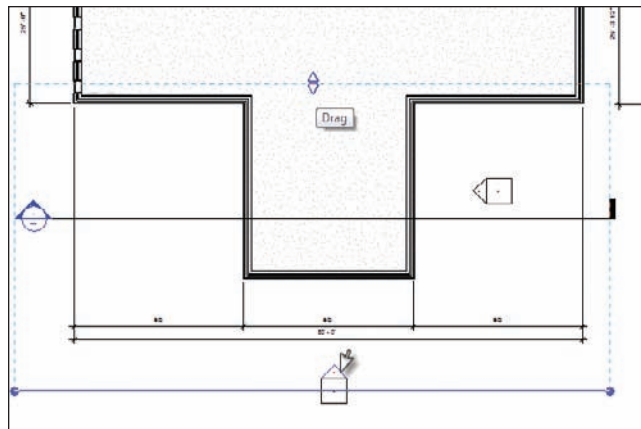

FIGURE 7.47 Adjusting the view
7. Place the elevation as shown in Figure 7.47.
9. Make sure you pull the view depth window back to see the wall beyond (see Figure 7.47).